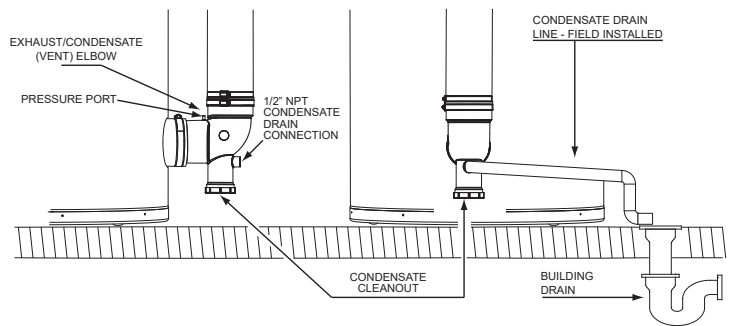

Figure 63. Condensate Drain Installation
2. Install a 1/2 inch PVC condensate drain line between the condensate drain connection on the exhaust/condensate elbow and a suitable building drain. The exhaust elbow has a "built in" condensate trap. Do not install an additional trap in the condensate drain piping. See **Figure 63**.
3. Terminate the condensate drain piping near the drain. See **Figure 63** (page 47).
4. Ensure that the condensate drain line is not elevated above the condensate drain connection on the exhaust/condensate elbow. See **Figure 63**.